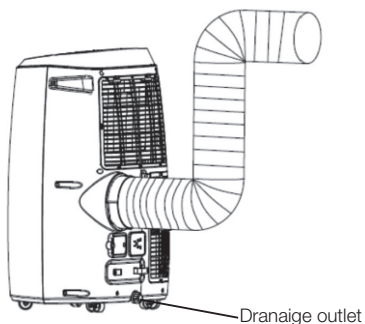

Fig. 6
- If water splash motor is damaged, continuous drainage can be used. To connect the drain hose to the bottom drainage outlet (Fig.6), the unit can also work well.